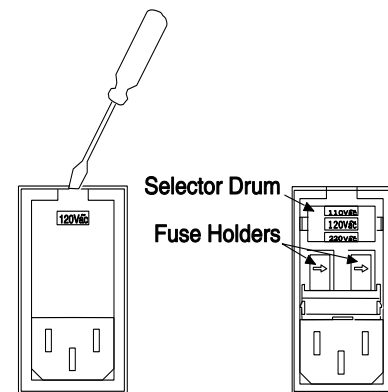

Figure 53. Power Input Module
- As shown in Figure 53, place the flat side of a flat bladed screwdriver parallel to the rear of the Controller and behind the small tab at the top of the power input module, and twist the screwdriver slowly but firmly to pop the module open.